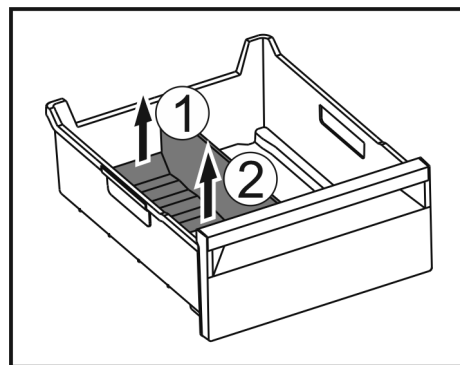

Fig. 126
- Lift the rear part of the ice compartment divider. Fig. 126 (1)
- Remove the ice compartment divider upwards. Fig. 126 (2)